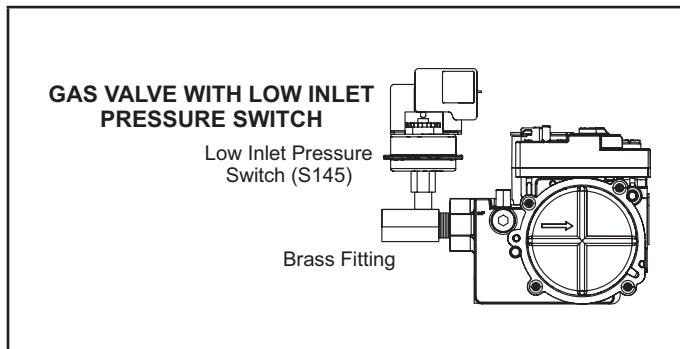

Figure 1
- 7 - Thread provided fitting to gas valve inlet until hand tight. Using properly sized wrench, tighten fitting 2 to 3 full turns being careful to position the side port to allow clearance for the pressure switch and harness. See figures 1 or 2.